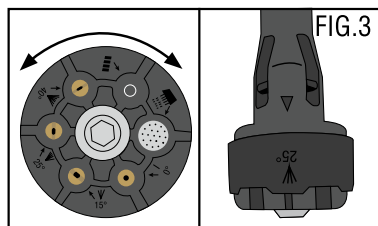

FIG.3
3. Choose desired setting by turning the end of the nozzle until your chosen setting lines up with the arrow on the nozzle. See Fig. 3